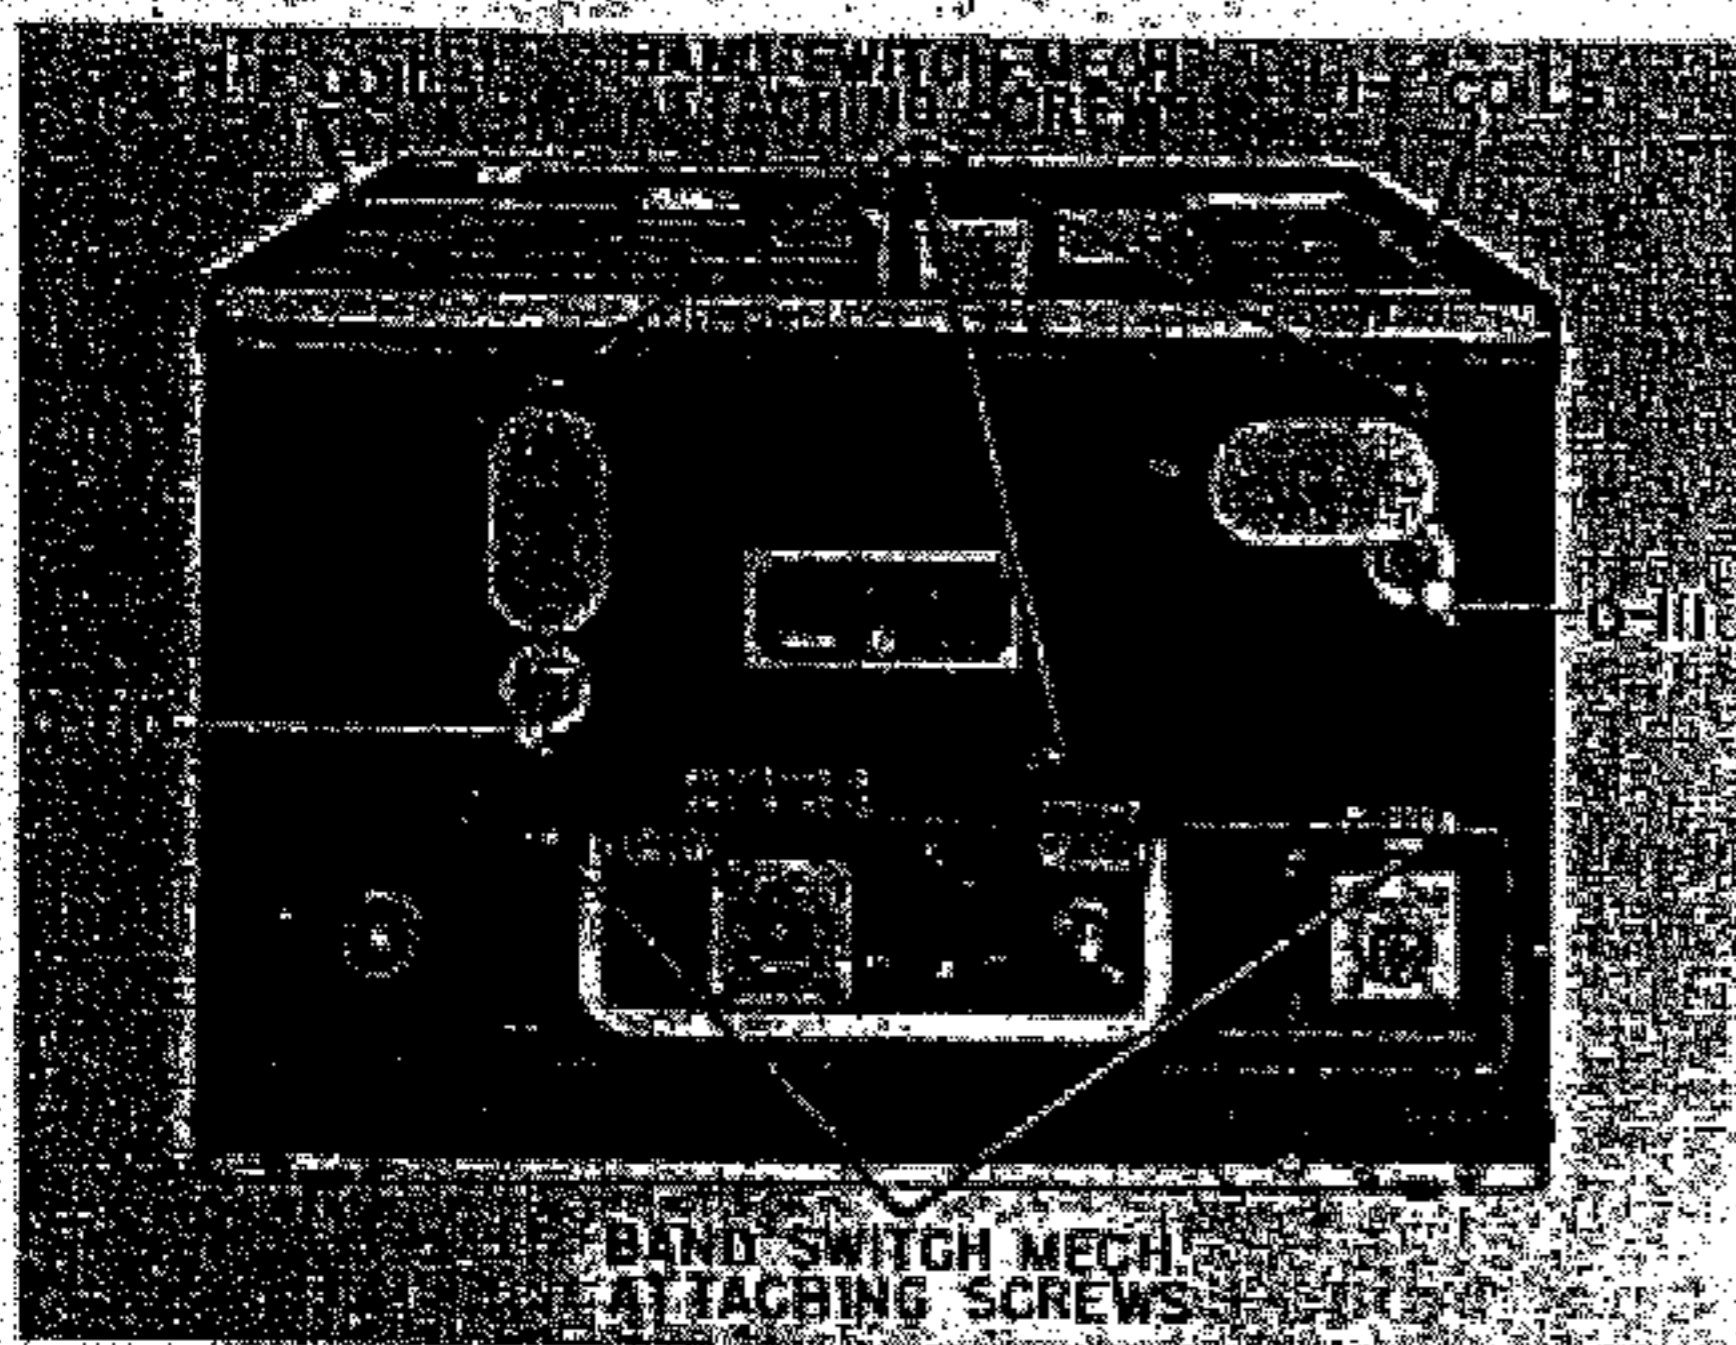

Figure 5-32. Radio Compass Unit R-101/ARN-6 or R-101A/ARN-6, Front View
5. Withdraw the shafts from the receiver, as in figure 5-32. The RF coil shaft, O-110, can be started by grasping the head with pliers, or by using a slim screwdriver behind the panel to get under the cross-pin in the shaft head and pry it out; the IF coil shaft, O-111, can be started by hand from the inside.
6. Remove the five screws, indicated in figure 5-32, which hold the mechanism frame.
(a) Remove proper band-switch shaft by opening the port on the front panel, and sliding the shaft straight out. (See figure 5-32.) Use care not to break the shaft. The RF coil shaft, 0-110, can be started by grasping the head with pliers, or by using a slim screwdriver behind the panel to get under the cross-pin in the shaft head and pry it out; the IF coil shaft, 0-111, can be started by hand from the inside.